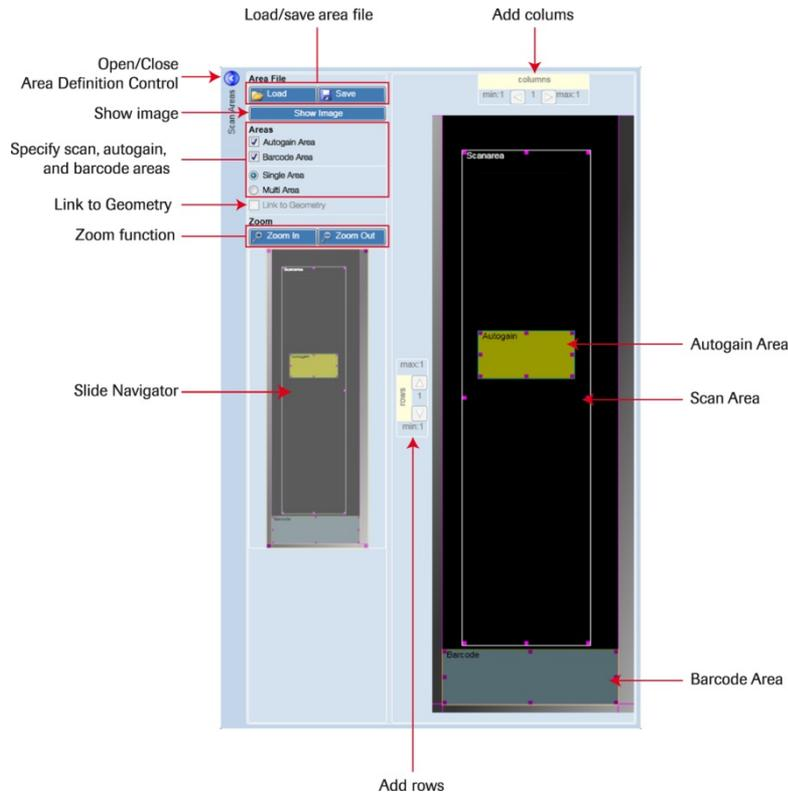

Figure 11: Components of the Area Definition Control
Use the Area Definition Control (Figure 11; denoted as *Scan Areas* in the software interface) to set scan, barcode, and autogain areas.
1. Click **Open/Close Area Definition Control** button (🔍) Figure 11.